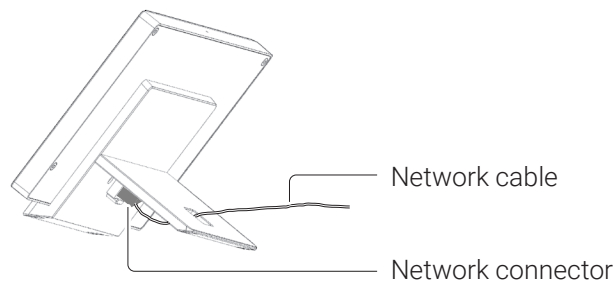

Figure 3-1. Connecting the ControlBridge® WIred Touch Panel to the network.
2. Install the network cable as shown in Figure 3-1, and connect the network connector.